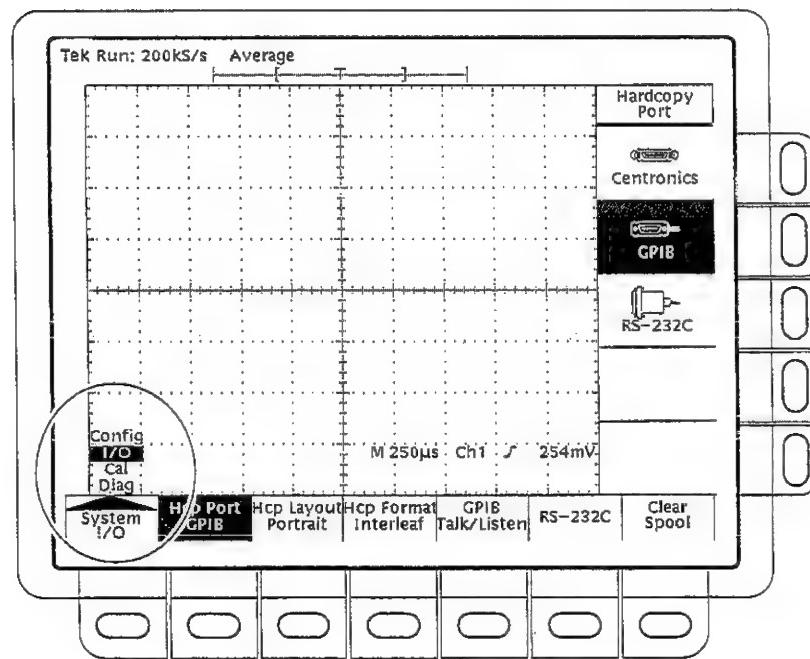

Figure 2-2: A pop-up menu
- The leftmost bottom menu button sometimes activates a pop-up menu (as shown in Figure 2-2). You can cycle through the pop-up menu options by repeatedly pressing the button. Each selection calls up different bottom and side menus.